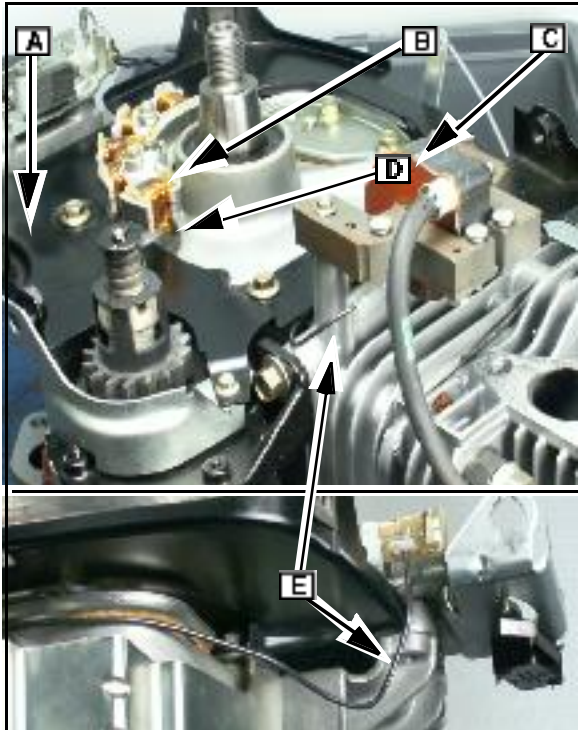

Fig. 27
6. Position the back plate ([A] Fig. 27) and loosely start the mounting screws.
7. Mount the alternator (B) and the ignition coil (C).
8. Route the alternator wire (D) and the ignition coil wire (E) as shown in Fig. 27.